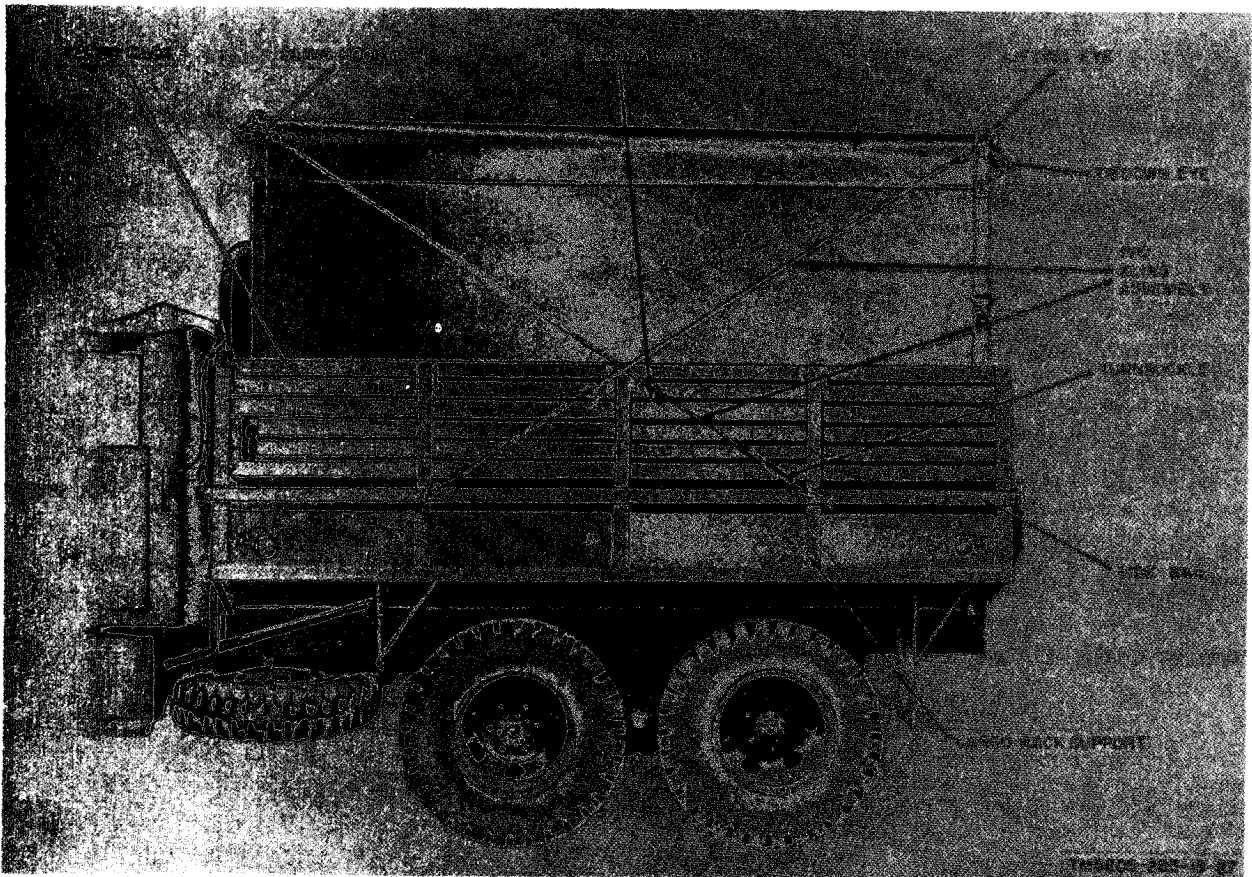

Figure 26. AN/MS-32 secured on truck.
- (10) Remove the lifting ring from the lifting hook and disassemble the lifting ring and sling hooks. Remove the sling center hooks from the shelter lifting eyes and the ropes from the shelter towing eyes.
- b. *Securing AN/MS-32 on Truck* (fig. 26). Secure the shelter on a truck as follows:
- (1) Use the sling hooks farthest from the turnbuckles and hook each of the four sling hooks to a tiedown eye on the shelter.
- (2) Use the sling assembly cable attached to the tiedown eye at the